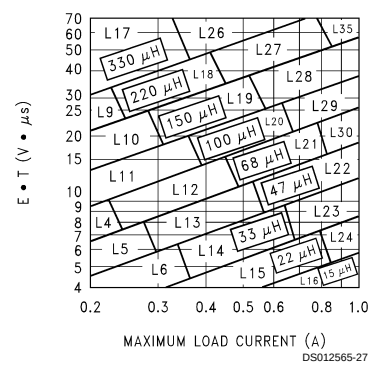

FIGURE 7. LM2595-ADJ
2. Inductor Selection (L1) A. Calculate the inductor Volt • microsecond constant E • T (V • μs), from the following formula: $E \cdot T = (V_{IN} - V_{OUT} - V_{SAT}) \cdot \frac{V_{OUT} + V_D}{V_{IN} - V_{SAT} + V_D} \cdot \frac{1000}{150 \text{ kHz}} (V \cdot \mu s)$ where V_{SAT} = internal switch saturation voltage = 1V and V_D = diode forward voltage drop = 0.5V B. Use the E • T value from the previous formula and match it with the E • T number on the vertical axis of the Inductor Value Selection Guide shown in Figure 7. C. on the horizontal axis, select the maximum load current. D. Identify the inductance region intersected by the E • T value and the Maximum Load Current value. Each region is identified by an inductance value and an inductor code (LXX). E. Select an appropriate inductor from the four manufacturer's part numbers listed in Figure 8. 3. Output Capacitor Selection (C_{OUT}) A. In the majority of applications, low ESR electrolytic or solid tantalum capacitors between 47 μF and 330 μF provide the best results. This capacitor should be located close to the IC using short capacitor leads and short copper traces. Do not use capacitors larger than 330 μF. For additional information, see section on output capacitors in application information section. B. To simplify the capacitor selection procedure, refer to the quick design table shown in Figure 3. This table contains different output voltages, and lists various output capacitors that will provide the best design solutions. C. The capacitor voltage rating should be at least 1.5 times greater than the output voltage, and often much higher voltage ratings are needed to satisfy the low ESR requirements needed for low output ripple voltage. 4. Feedforward Capacitor (C_{FF}) (See Figure 1) For output voltages greater than approximately 10V, an additional capacitor is required. The compensation capacitor is typically between 50 pF and 10 nF, and is wired in parallel with the output voltage setting resistor, R₂. It provides additional stability for high output voltages, low input-output voltages, and/or very low ESR output capacitors, such as solid tantalum capacitors. $C_{FF} = \frac{1}{31 \times 10^3 \times R_2}$ This capacitor type can be ceramic, plastic, silver mica, etc. (Because of the unstable characteristics of ceramic capacitors made with Z5U material, they are not recommended.)	2. Inductor Selection (L1) A. Calculate the inductor Volt • microsecond constant (E • T), $E \cdot T = (28 - 20 - 1) \cdot \frac{20 + 0.5}{28 - 1 + 0.5} \cdot \frac{1000}{150} (V \cdot \mu s)$ $E \cdot T = (7) \cdot \frac{20.5}{27.5} \cdot 6.67 (V \cdot \mu s) = 34.8 (V \cdot \mu s)$ B. E • T = 34.8 (V • μs) C. I_{LOAD(max)} = 1A D. From the inductor value selection guide shown in Figure 7, the inductance region intersected by the 35 (V • μs) horizontal line and the 1A vertical line is 100 μH, and the inductor code is L29. E. From the table in Figure 8, locate line L29, and select an inductor part number from the list of manufacturers part numbers. 3. Output Capacitor Selection (C_{OUT}) A. See section on C_{OUT} in Application Information section. B. From the quick design table shown in Figure 3, locate the output voltage column. From that column, locate the output voltage closest to the output voltage in your application. In this example, select the 24V line. Under the output capacitor section, select a capacitor from the list of through hole electrolytic or surface mount tantalum types from four different capacitor manufacturers. It is recommended that both the manufacturers and the manufacturers series that are listed in the table be used. In this example, through hole aluminum electrolytic capacitors from several different manufacturers are available. 82 μF, 35V Panasonic HFQ Series 82 μF, 35V Nichicon PL Series C. For a 20V output, a capacitor rating of at least 30V or more is needed. In this example, either a 35V or 50V capacitor would work. A 35V rating was chosen, although a 50V rating could also be used if a lower output ripple voltage is needed. Other manufacturers or other types of capacitors may also be used, provided the capacitor specifications (especially the 100 kHz ESR) closely match the types listed in the table. Refer to the capacitor manufacturers data sheet for this information. 4. Feedforward Capacitor (C_{FF}) The table shown in Figure 3 contains feed forward capacitor values for various output voltages. In this example, a 1 nF capacitor is needed.